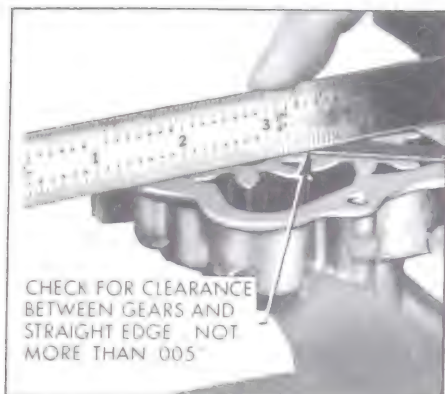

Figure 2-51—Checking Clearance of Gears at Cover
6. Check for clearance between gears and cover by using a straight edge as shown in Figure 2-51.